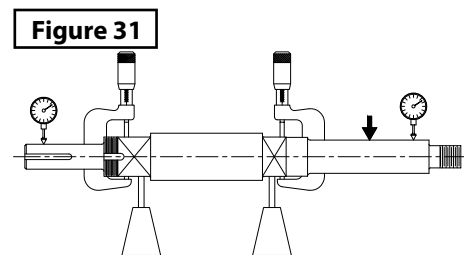

Figure 31
- ÿ Inspect the shaft, reviewing the general aspects, replace if you have grooves or pits (see Figure 31).